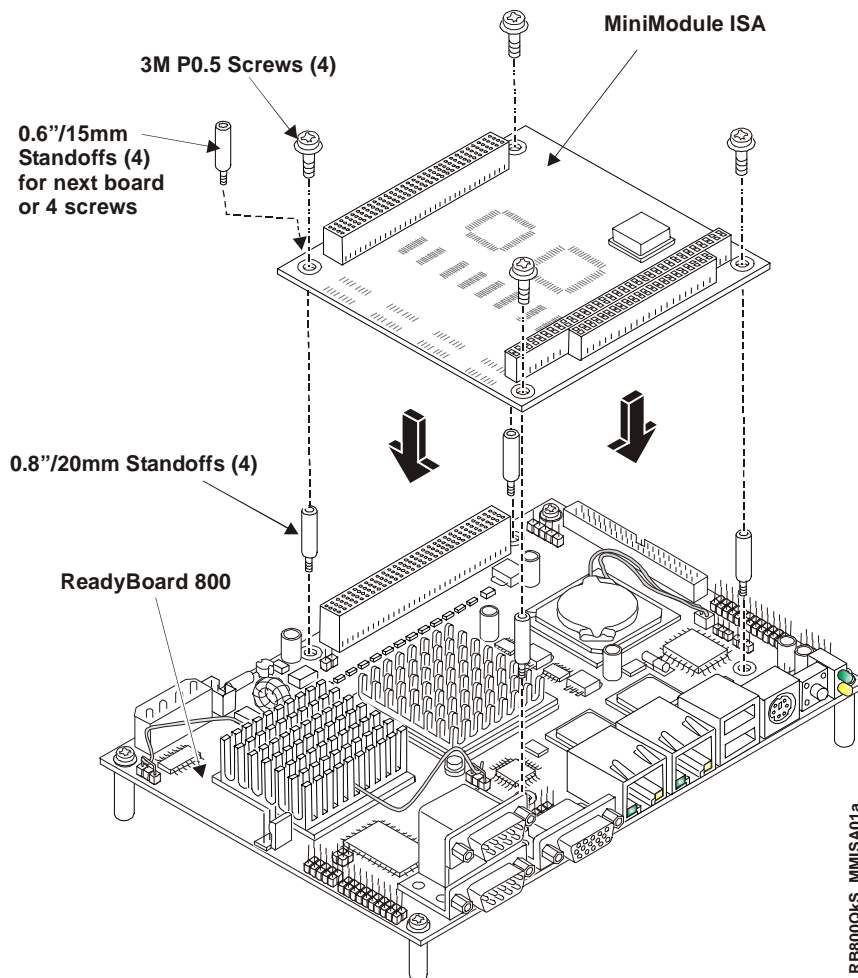

Figure 2-7. Installing the MiniModule ISA Expansion Board
4. Mount the four 0.8" (20 mm) standoffs onto the ReadyBoard 800 at the four PC/104 mounting holes on the board. See Figure 2-7.
5. Position the MiniModule ISA board over the PCI-104 connector on the ReadyBoard 800. Match the connector on the bottom of the MiniModule ISA board with the PCI-104 connector on the ReadyBoard 800, as shown in Figure 2-7.
8. Install the screws (4) through the MiniModule ISA board into the standoffs (4) to secure it to the ReadyBoard 800 as shown in Figure 2-7.
1. Remove the four screws (or standoffs) holding the MiniModule ISA board to the ReadyBoard 800. See Figure 2-7.